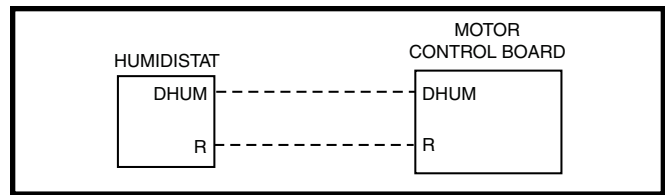

Figure 23. DEHUM Wiring Configuration with Humidistat
- If the room thermostat incorporates a humidity sensor and **DEHUM** output, connect the **DEHUM** on the thermostat to the **DEHUM** terminal on the motor control board. See Figure 23 above.